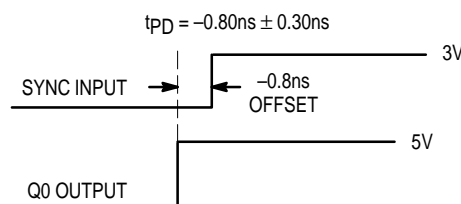

Figure 2. Depiction of the Fixed SYNC to Q0 Offset (t_{PD}) Which Is Present When a 1MΩ Resistor Is Tied to V_{CC} or Ground
2. A 1MΩ resistor tied to either Analog V_{CC} or Analog GND, as shown in Figure 2, is required to ensure no jitter is present on the MC88920 outputs. This technique causes a phase offset between the SYNC input and the Q0 output, measured at the pins. The t_{PD} spec describes how this offset varies with process, temperature, and voltage. The specs were arrived at by measuring the phase relationship for the 14 lots described in note 1 while the part was in phase-locked operation. The actual measurements were made with a 10MHz SYNC input (1.0ns edge rate from 0.8V to 2.0V). The phase measurements were made at 1.5V. See Figure 2 for a graphical description.